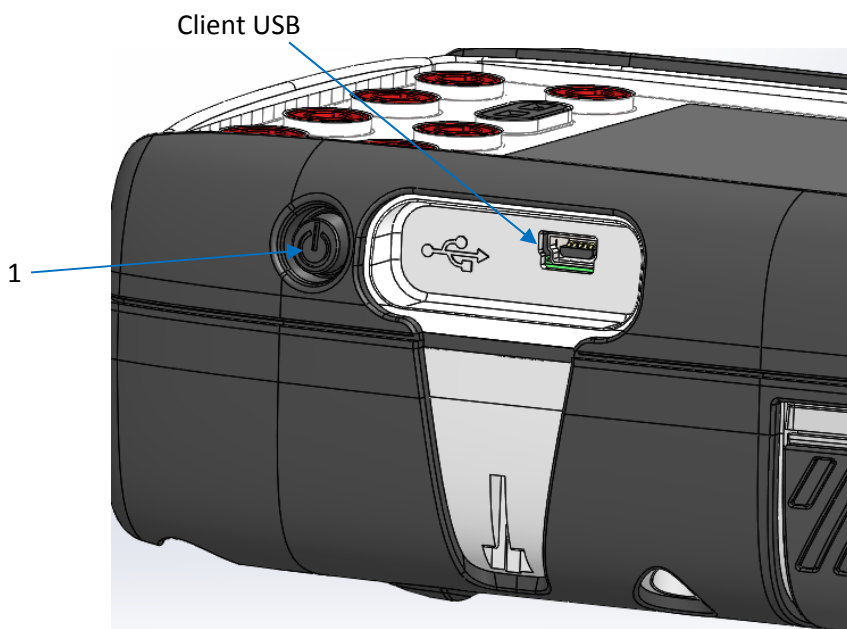

Figure 1-4 DPI620G-IS Side View
With reference to Figure 1-4: From OFF – momentarily press the power button [1] until the display GE logo appears.
4. Connect the DPI620G-IS Client USB port to the PC (Ref: Figure 1-4).